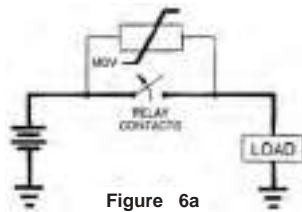

Figure 6a
Figure 6a, b, and c show three methods used to limit the voltage transient developed across the relay contacts when interrupting inductive loads. The same circuits impressed across the load will protect it from voltage overshoot:
- Figure 6a shows a Metal Oxide Varistor (MOV) across the power contacts. We recommend this circuit for most general purpose applications and suggests the user consult MOV manufacturers application notes since the proper MOV selection depends on transient energy, etc. MOV's are compact in size and low in cost.